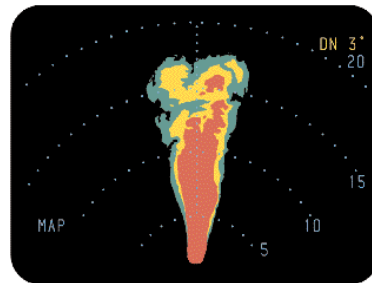

Figure 4
- If the pattern shifts per Figure 4, there is no roll stabilization and the system should be ground checked per the Installation Manual.